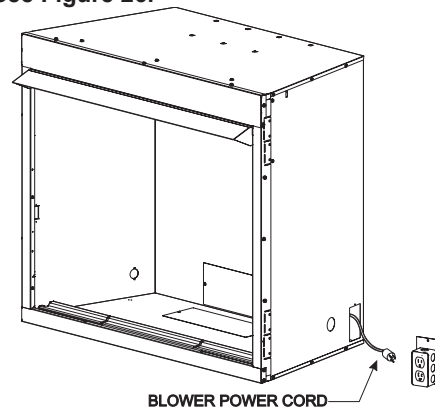

Figure 26
- To complete the installation, plug the power cord into the junction box receptacle at the right rear corner of the firebox outer wrap. See Figure 26.